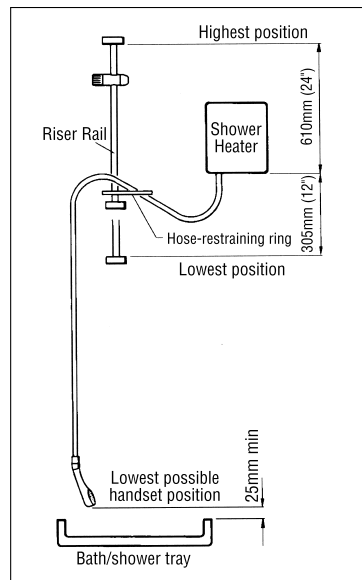

Figure 2.6 Siting of riser rail and heater.
2.6 Position the riser rail close to the heater, not necessarily on the same wall (but bear in mind paragraph 2.4) so that, in its highest parked position the handset is no more than 610mm (24") above the bottom of the heater, and in its lowest position no lower than 305mm (12") below the heater (see Fig. 2.6).
- (i) install a hose-restraining ring (see Fig. 2.6)